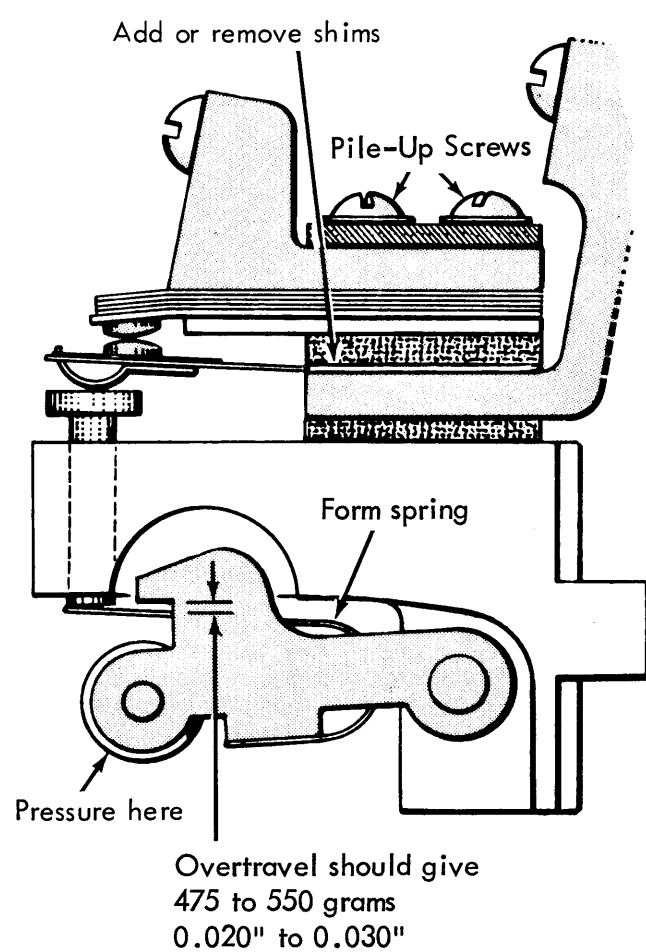

Figure 4-26. High-Speed Circuit Breaker
1. Remove the CB assembly from the machine. Shim for 0.027-inch to 0.032-inch contact air gap with plunger seated against the frame (Figure 4-26).